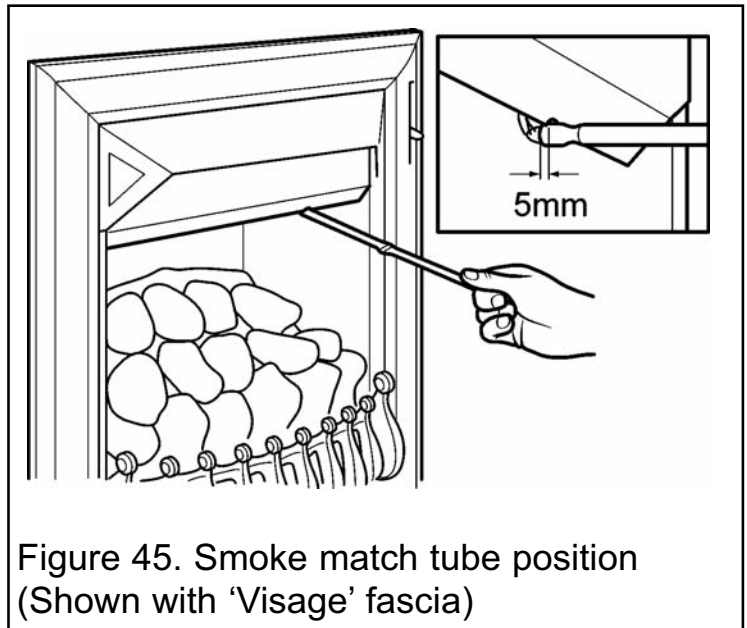

Figure 45. Smoke match tube position (Shown with 'Visage' fascia)
4. The smoke match should be placed horizontally into the convection box at the right hand side. There is a notch in the black cross member. Insert the tube so that the neck of its flared end is 5mm passed and in contact the cross member (See figure 45).